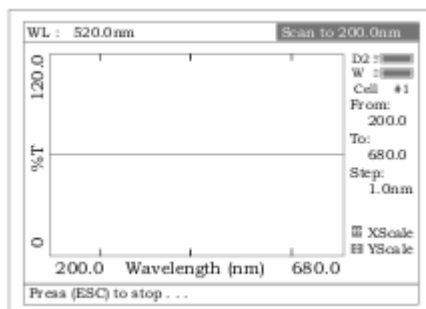

Fig.44
3. Put the blank cuvette into the Reference Light Path and Main Light Path, press **【ZERO】** to scan the baseline (Fig 44). Press the key **【ESC/STOP】** to stop scanning: